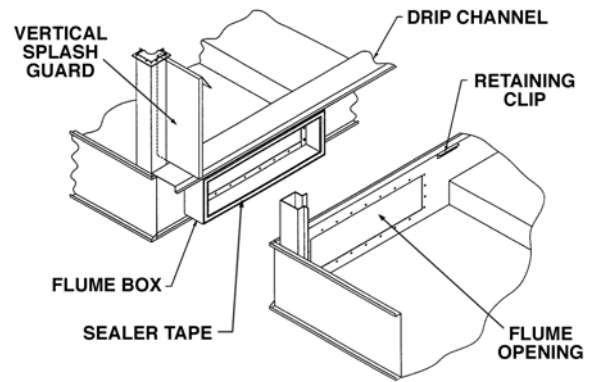

Figure 9 – Equalizer Flume Connection, Models 672-23M through 672- 46Q
2. Clean the flanges on the exposed end of the equalizer flume box. Apply a layer of sealer tape on the flange centered between the hole centers and the outside edge. Remove paper backing strip from the sealer tape (see Figure 9).
10. Place the vertical splash guard in the bend of the vertical supports. On galvanized units, attach the vertical splash guard using 5/16" self-tapping screws. On stainless steel units, attach the vertical splash guard using 5/16" stainless steel nuts and bolts. (See Figure 9)